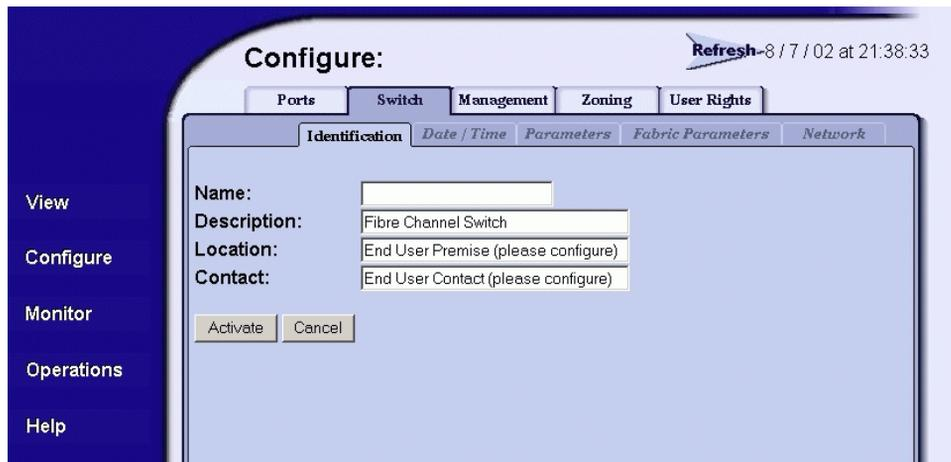

Figure 2-4: Switch page—Identification tab
1. At the **Configure** window, click the **Switch** tab. The **Switch** page displays with **Identification** tab selected, as shown in Figure 2-4.